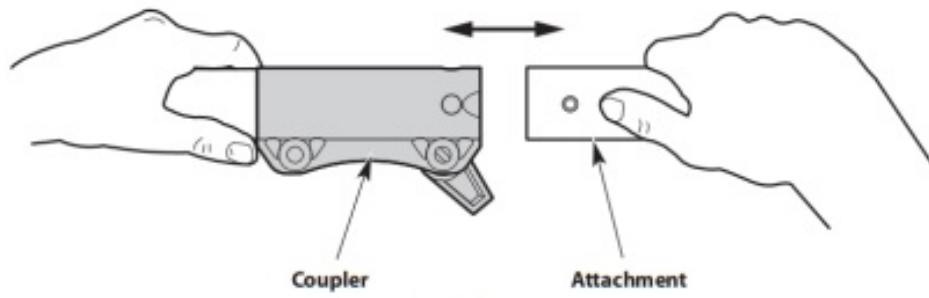
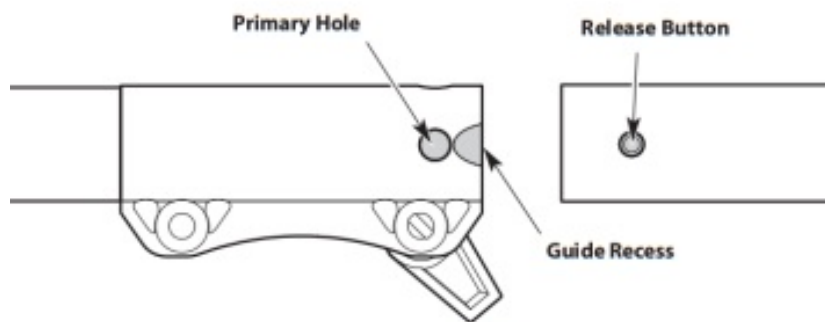

Fig. 2
Fig. 3
4. Align the release button with the guide recess (Fig. 3).
5. Push the attachment straight into the coupler (Fig. 2) until the release button snaps firmly into the primary hole (Fig. 3).
3. Press and hold the release button (Fig. 3).
4. Pull the attachment straight out of the coupler (Fig. 2).